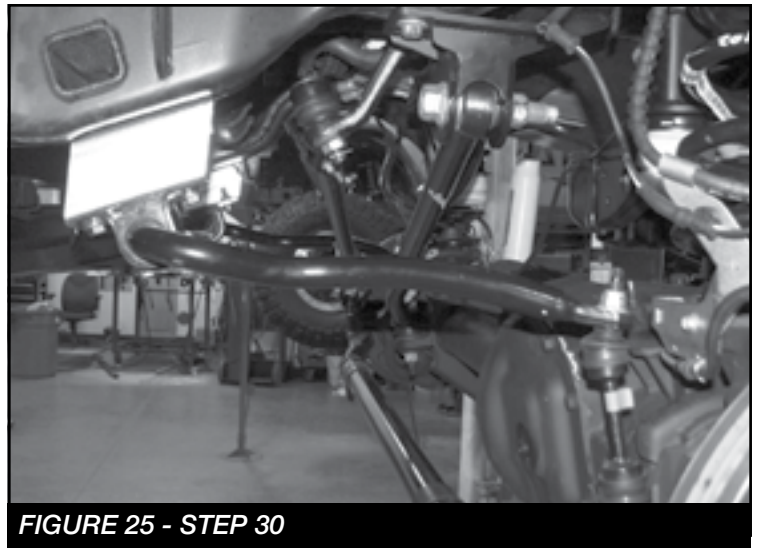

FIGURE 25 - STEP 30
30. Install FT3400-112P (Driver) & FT3400-112D (Passenger) Sway bar drop brackets using the factory hardware. Torque to 35 ft-lbs. Reinstall the front sway bar to the end links using the supplied 7/16" hardware torque hardware to 83 ft-lbs. Reconnect the sway bar to the endlinks. Torque to 59 ft-lbs **SEE FIGURE 25**